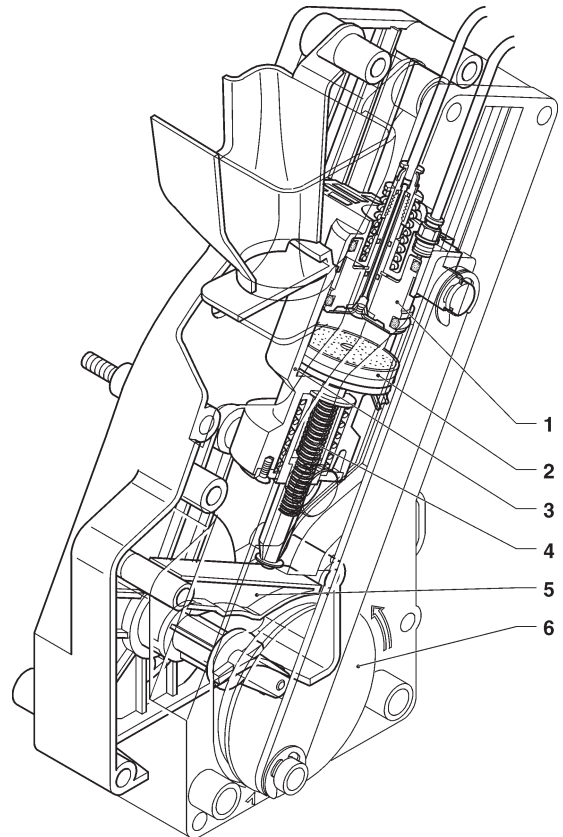

Fig. 17
By completing the rotation of the ratiomotor (see Fig. 17) the pistons and the coffee dose are lifted by means of the swinging lever (5).